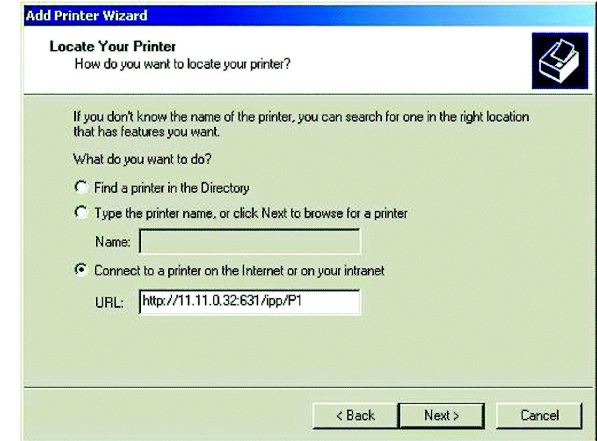

Figure 7-4: Locate Your Printer
2. Select Network Printer and click Next to see the Locate your Printer screen, as shown in Figure 7-4.